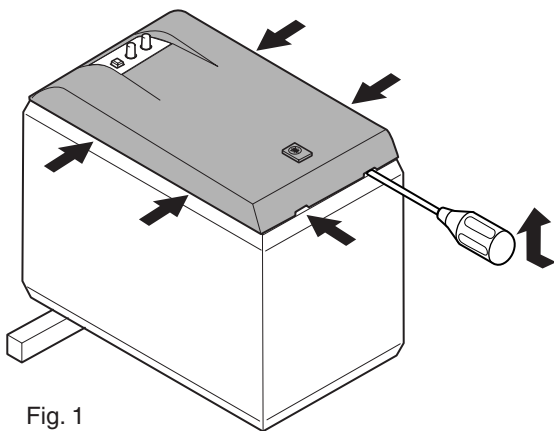

Fig. 1
- Use the screwdriver inserted in the gap between the front grille and the cabinet (bottom side first), push up the front grille. (Fig. 1)
- Remove the front grille by lifting it up. (Fig. 1)